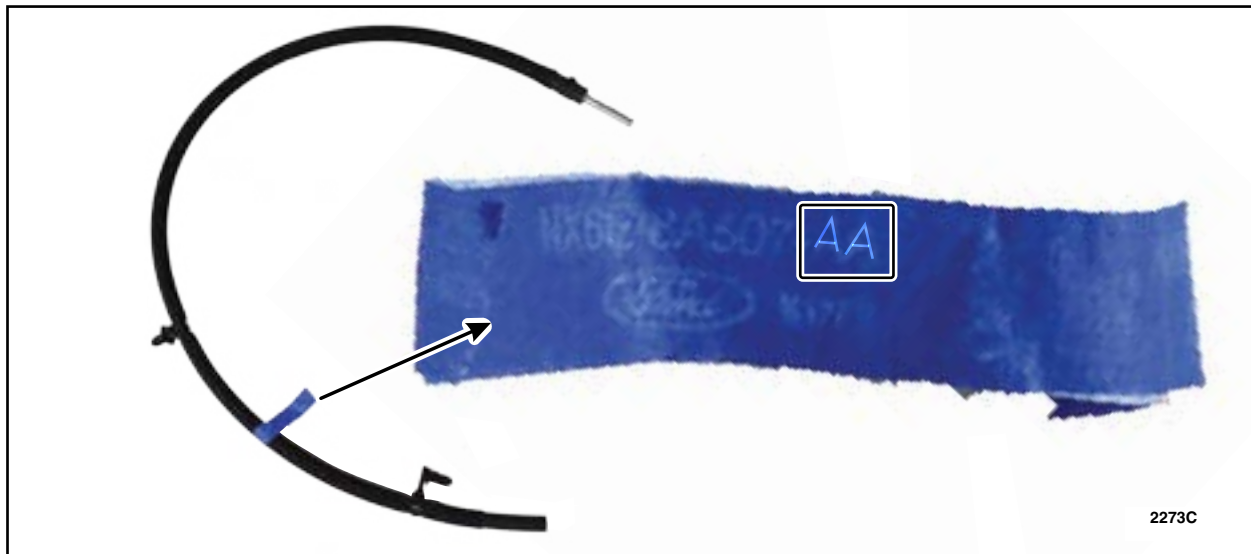

FIGURE 4
18. Inspect the part label on the drain tube. Is the suffix of the part an AA or AB? See Figure 4.